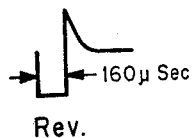

Fig. 5.3.2
7. Adjust RV110 to obtain a 160 μ sec pulse width. See Fig. 5.3.2. 8. Press the Rev button further several times, and check whether the Time Indicator regularly changes its time indication. If not, repeat 7.